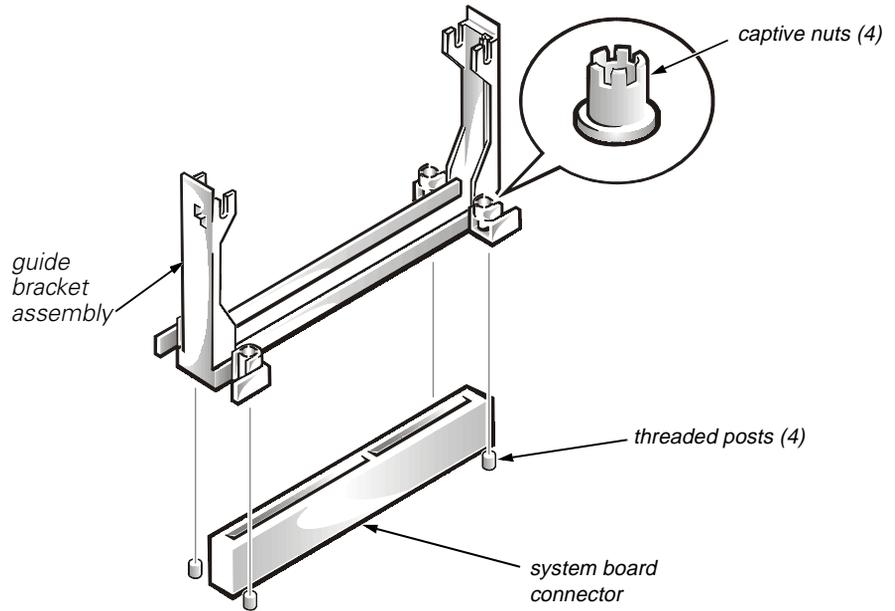

Figure 3. Installing the New Guide Bracket Assembly
1. Position the guide bracket over the four threaded posts (see Figure 3). You can install the guide bracket only one way (the captive nuts will not align with the threaded posts if installed incorrectly).